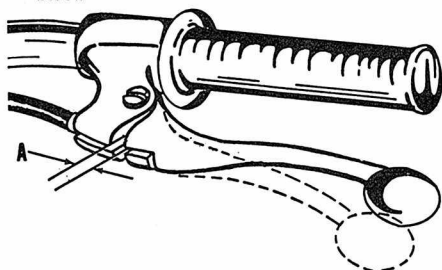
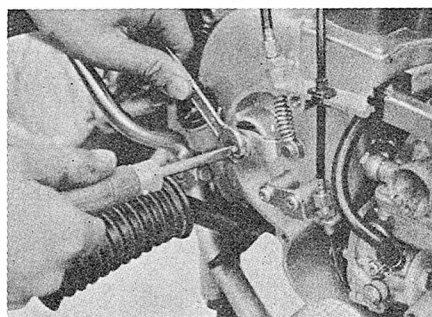

Fig. Y13-6—Adjust clutch cable to obtain  $\frac{1}{16}$ – $\frac{1}{8}$  inch free play at (A).
Fig. Y13-7—View of clutch adjustment on right side of engine.
**CLUTCH CONTROLS.** Clutch lever should be adjusted so there is  $\frac{1}{16}$ – $\frac{1}{8}$  inch free play as shown in Fig. Y13-6. To adjust clutch, remove the carburetor cover on right side of engine. Loosen lock nut and turn adjusting screw in until it lightly seats. Back the screw out  $\frac{1}{4}$  turn and tighten the lock nut. See Fig. Y13-7.